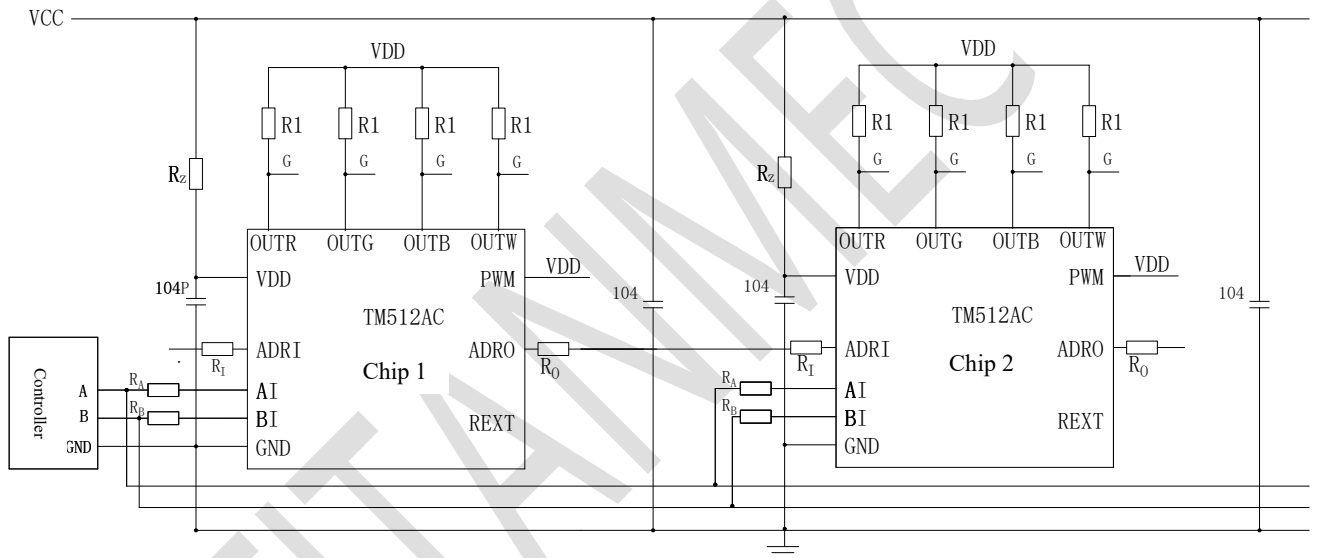

Figure 12
2. Figure 12 is an application diagram for 4-channel reverse polarity application. Pay attention to PORT0 and PORT1 when other fields are applied in reverse polarity.